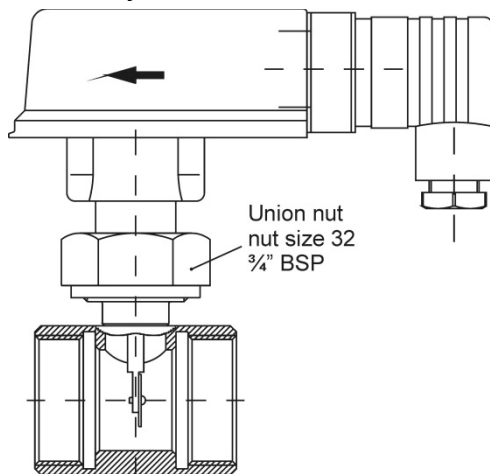

Fig. 5
- ↪ Flow switches optionally equipped with a copper tube section (→ Fig. 5) have to be soldered to the pipe. The flow switch (body with paddle system) and the o-ring have to be disassembled from the tube section.